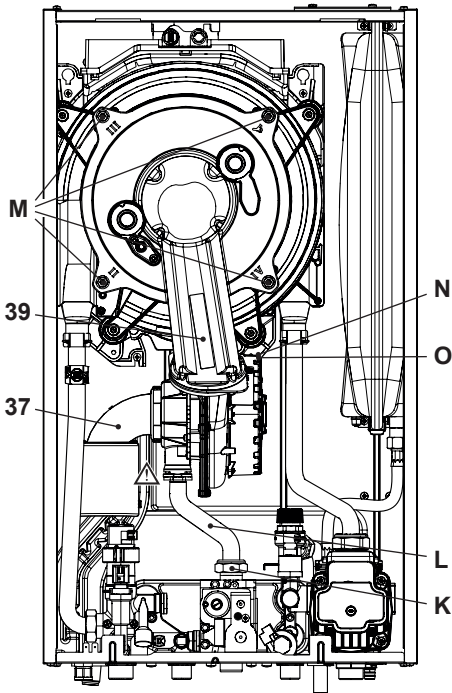
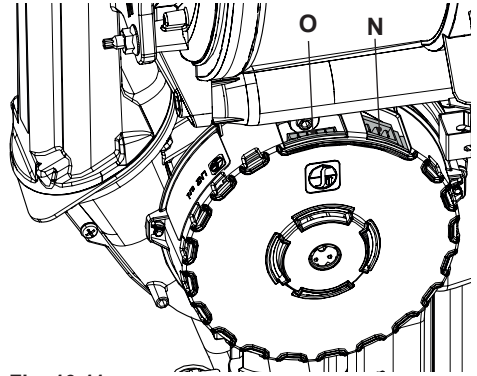

Fig. 10.10
Fig. 10.11
Removing the fan burner unit 39 in Fig. 10.10.
- Disconnect the fan connector "N" by pulling it (Fig. 10.10 - Fig. 10.11).
- Disconnect the fan connector "O" by pressing the plastic hook positioned at the bottom part of the connector (Fig. 10.10 - Fig. 10.11).
- Unscrew screws "M" and remove the fan burner unit 39 (Fig. 10.10).